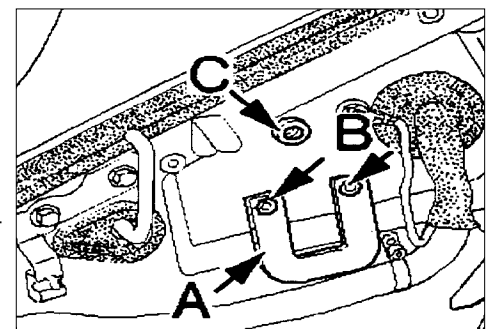

Figure 3
Note: If the holes of 4 and 9 mm dia. (Figure 3, Position B & C) are not drilled, use the control unit and plastic brackets as a template and drill the holes. Treat the holes with anti corrosion paint.
3.2 - Secure the plastic bracket (Figure 3, Arrow A) with pop-rivets into the lower holes (4mm diameter) as shown in Figure 3, Position B.
3.3 - Install the M6 rivet nut with rivet nut pliers into the top hole (9mm diameter) Figure 3, Arrow C.